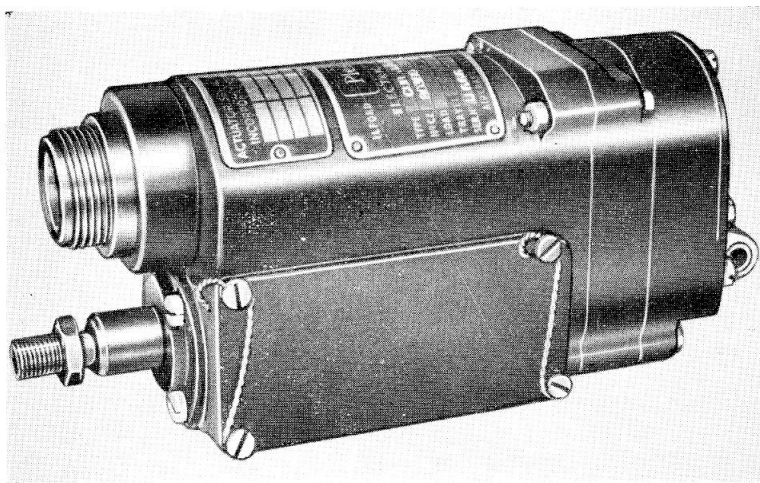

Fig. 1. General view of actuator, Plessey, Type ICZ135840/B/
2. A general view of the Type ICZ 135840/B/2 is shown in Fig. 1. The basic construction of these actuators is as described and illustrated in the main chapter, to which reference should be made for further information.